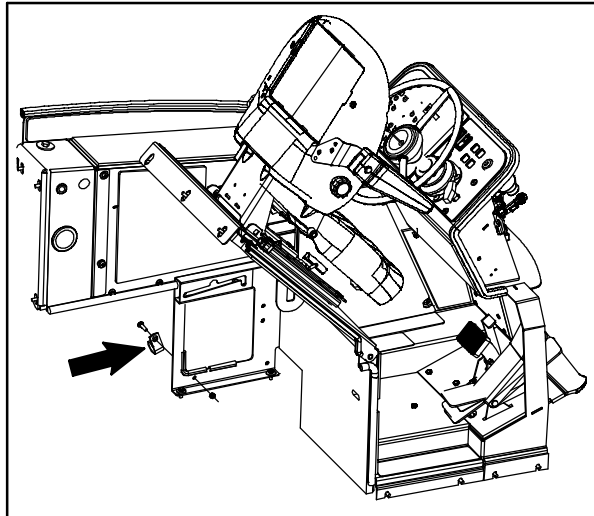
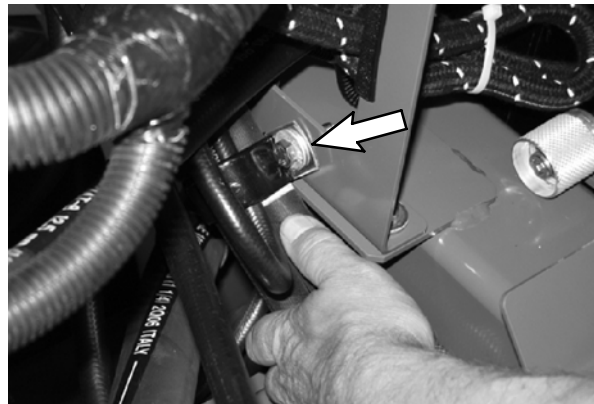
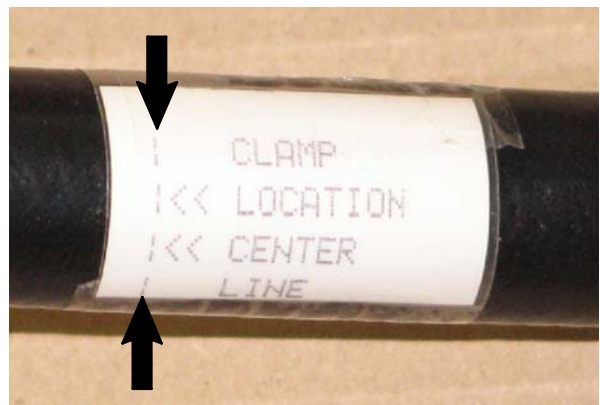

FIG. 1
FIG. 2
FIG. 4
2. Loosen the hose clamp and remove hydraulic hoses (A) and (B) from the clamp. Refer to Fig. 1 and Fig. 2.
3. Reinstall the hose clamp. Be sure the markings on the remaining hoses remain positioned as shown in Fig. 2.
7. Cut the ends from the cable ties (3).
8. Route both hydraulic hoses (1) the rest of the way to the hose clamp. Refer to Fig. 1 and Fig. 2.
9. Loosen the hose clamp, position the hydraulic hoses (1) so the CLAMP LOCATION CENTER LINE markings on the labels are centered in the hose clamp, and reinstall the hose clamp. Refer to Fig. 1, Fig. 2, and Fig. 4.